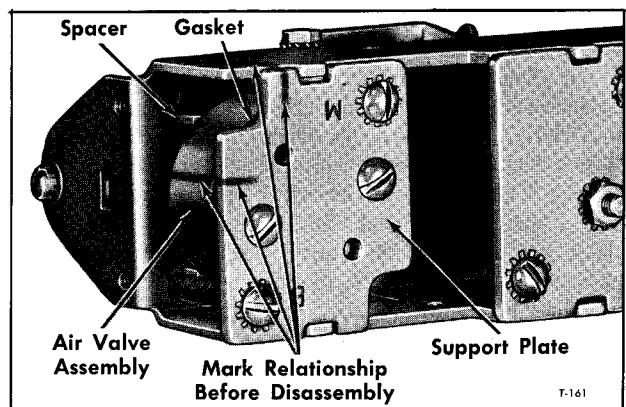

Figure 14—Grad-U-Stat Air Valve Installed
d. New brushes have a 6° angle on the brush face. The brush should always be inserted so the angle is open away from the pump end of the assembly (see fig. 14).
6. Mark air line manifold (13), air valve assembly (14), support plate under air valve assembly and Grad-U-Stat frame, to ensure proper placement in assembly (fig. 14).
7. Remove air line manifold (13) by removing two mounting screws, taking care not to damage sealing surfaces.
8. Remove air valve assembly (14) by unscrewing two screws holding valve and its support plate (23) to Grad-U-Stat frame. Remove U-shaped spacer (20).
3. Assemble secondary lever (12) and tighten two brass attaching screws. NOTE: Make sure lever is mounted at bottom of screw slots.
4. Install the main lever (9) in place and secure by tightening main lever pivot screws (19). The main lever pivot screws should allow from 0.005" to 0.010" side play of main lever to prevent binding.
5. Install temperature bellows (11) in place using attaching screw with internal-teeth lock washer at stationary bracket and regular lock washer at main lever screw. **DO NOT REMOVE BELLOWS CLAMP.**
6. Slip main spring (8) with main spring seat (21), and indicator assembly (7) in place.
8. Install the air valve assembly (14) and its support plate and spacer (20) in the Grad-U-Stat frame with four screws, to alignment marks made at disassembly. Make sure the pin on the extension nut (16) goes through the hole in the secondary lever (12). Don't force the air valve assembly in place; screw down extension nut, if necessary. If pin does not fit loosely in secondary lever hole, realign secondary lever (12) by pressing on one side with screwdriver.
NOTE: The valve unit spacer (20) should be installed with the open end of horseshoe shape facing out as shown in figure 14. Purpose of spacer is to prevent distortion of valve support plate which would cause leaking.
Should a replacement air valve assembly (14) be installed, place a new gasket (fig. 14) on bottom of air valve. Make certain that new unit is properly oriented by observing relationship between mark made on old unit in disassembly and holes in bottom of air valve assembly. Place mark on new unit